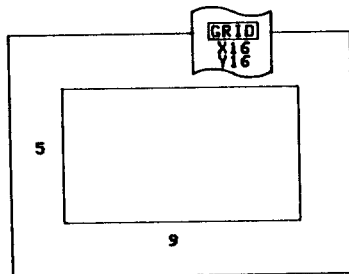

Fig 2
- 6 Draw a rectangle 9 x 5 units in size. as in Fig 2.